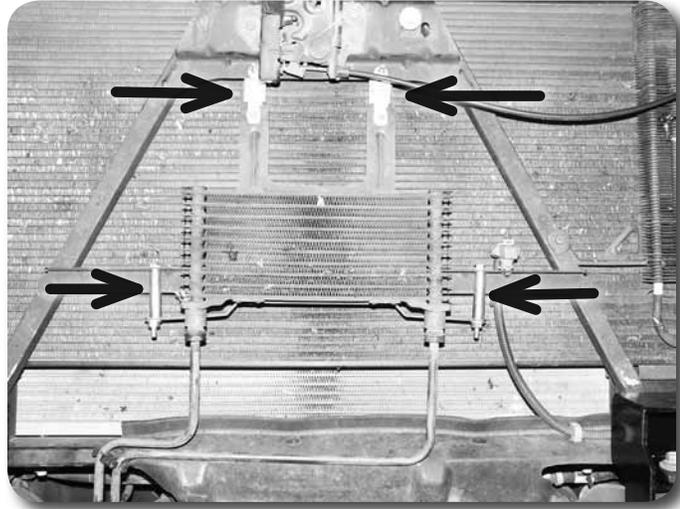

Figure 24
46. Position the provided 2" oil cooler spacer sleeves between the two bottom oil cooler mounting tabs and the original mount on the core support **Figure 24**. Fasten the spacers and cooler to the core support with  $\frac{1}{4}$ " x 3" bolts, nuts and  $\frac{1}{4}$ " USS washers. Torque to 15 ft-lbs.
47. Mount the cooler lines back in the plastic retaining clip and the bottom of the core support Figure 24.